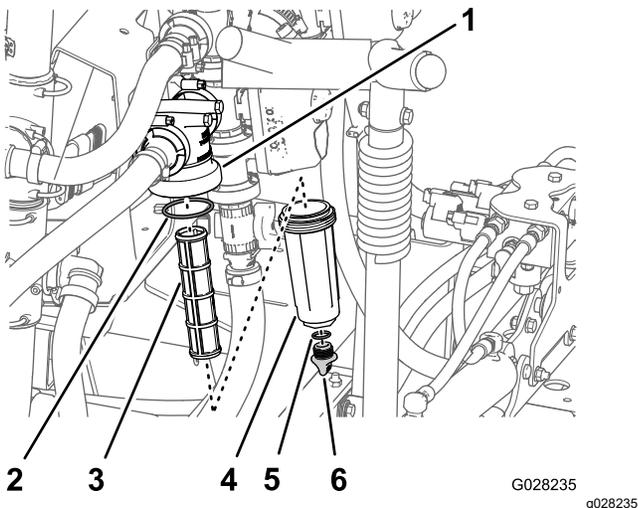

Figure 53
2. Align a drain pan under the pressure filter (Figure 53).
3. Rotate the drain cap counterclockwise and remove it from the bowl of the pressure filter (Figure 53).
4. Rotate the bowl counterclockwise and remove the filter head (Figure 53).
5. Remove the pressure filter element (Figure 53).
7. Check the gasket for the drain plug (located inside the bowl) and the gasket for bowl (located inside the filter head) for damage and wear (Figure 53).
8. Install the pressure filter element into the filter head (Figure 53).
9. Install the bowl onto the filter head, and tighten by hand (Figure 53).
10. Assemble the drain cap onto the fitting at the bottom of the bowl, and tighten the cap by hand (Figure 53).